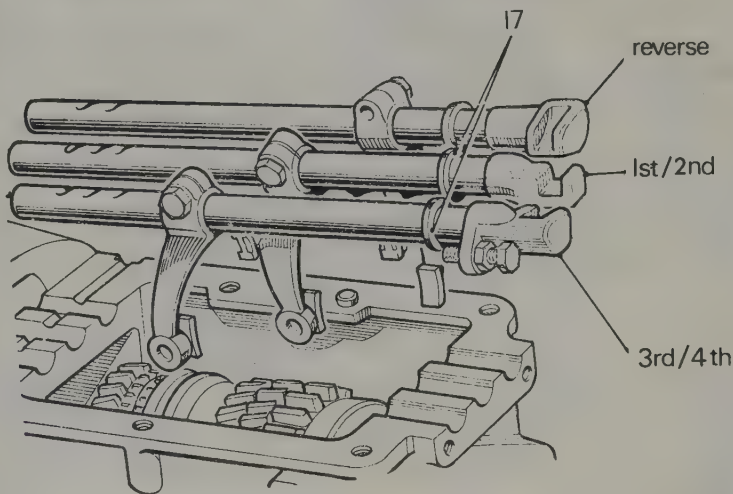

Fig. 6.10. Selector shafts and forks (17) shaft seals
- 13 Lift out the reverse gear selector fork and shaft (Fig. 6.10).